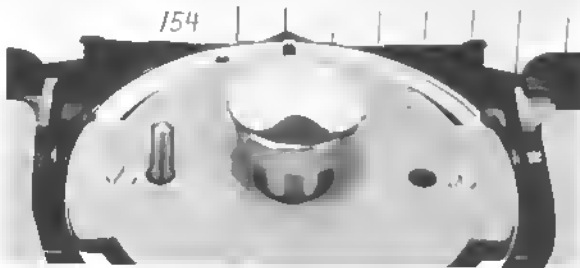

Figure 74
11. Move carriage and align point of shield with bottom boxed heading rule (Figure 74). If ruling switch was pressed, rules would overlap because characters on DS type fonts print approximately 2 increments to the left of the shield point. To butt horizontal rules with vertical rule, align point of shield with vertical rule, space in 2 increments and begin.